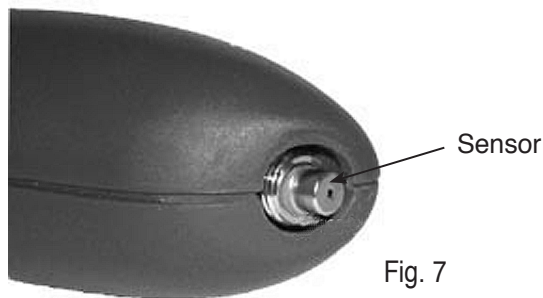

Fig. 7
1. Remove the flexible probe by firmly grasping it and rotating it counterclockwise. This exposes the sensor in the end of the unit (see Fig. 7). Verify the sensor is installed.